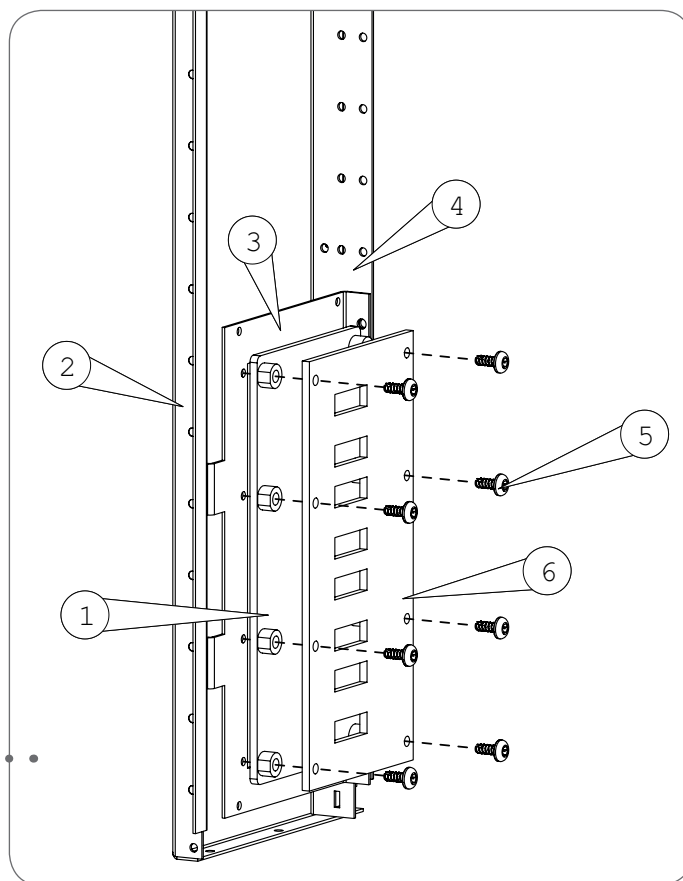

Fig 8.4.1 *Installing busbar holder.*
The busbar insulators are fastened to the busbar insulator holders (3) with screws. For the ends of possible power busbars in an enclosure, busbar insulators (6) and busbar end insulators (1) are installed to insulate the busbars from the metal frame structures as shown in Fig. 8.4.1. The busbar insulators are fastened with either 4.8x9.5mm plate screws or M5x10 assembly screws and the busbar end insulators with, for instance, 5,5x25mm screws.